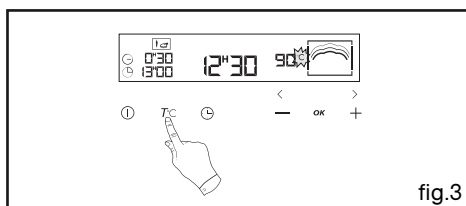

fig.3
• Grid (fig.3)
- Press the **T°C** touch control until the “°C” symbol begins flashing (fig.3).